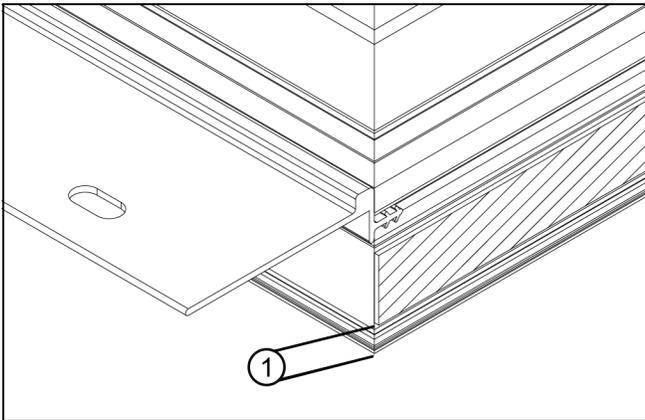

Figure 30
1. Lay the transom frames on a flat surface in the desired mulling configuration (interior facing up). Remove nailing fin from sill and side jambs that will be mulled together. Apply mull sealant foam tape along the entire length of one jamb to be mulled ensuring it is located 1/4" (6) from the exterior edge of the Ultrex frame as shown in Figure 30